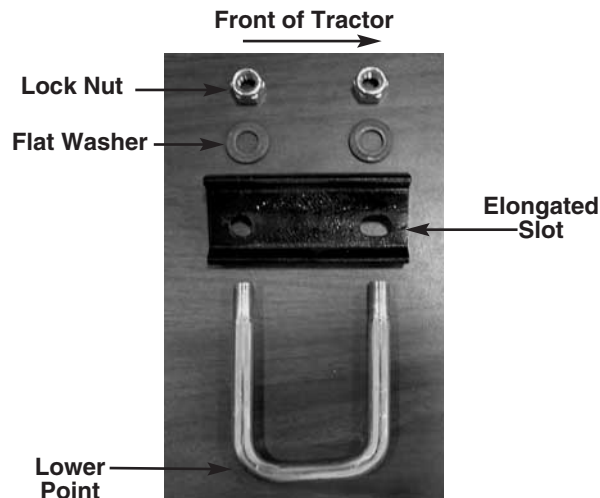

FIGURE 7.
20. Remove both transmission to frame "U" bolts using a 3/4" socket. See figure 7.
NOTE: The "U" bolts have a lower point on one side. The point goes towards the rear of the unit during reassembly. See figure 7.